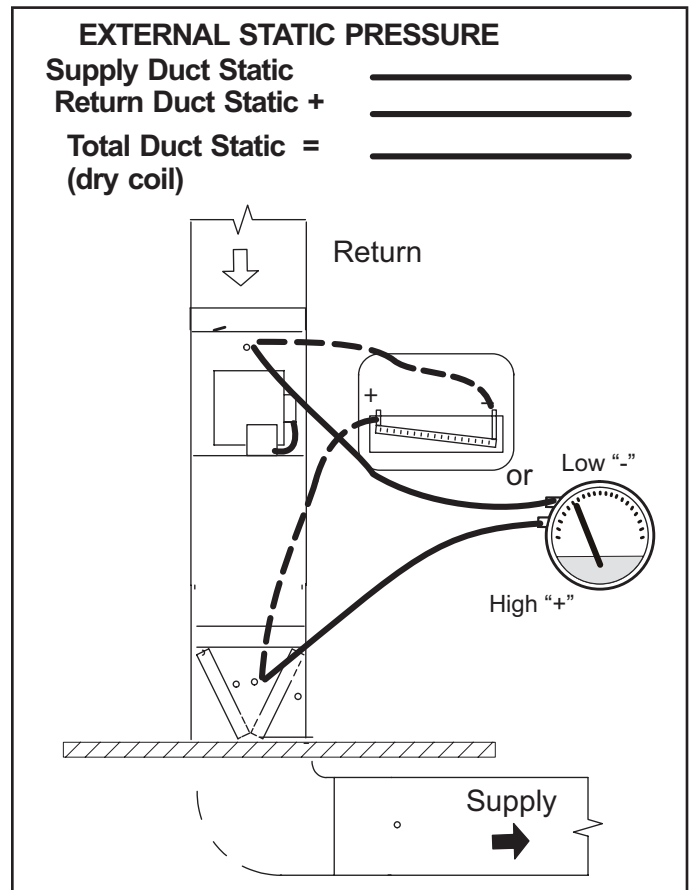

FIGURE 57
- 1 - 1 - Tap locations shown in FIGURE 57.